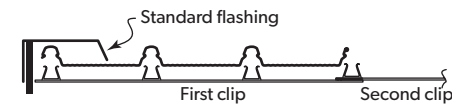

Figure 3
2. Position the first clips on each support by placing onto the support nearest the roof edge (Figure 3).